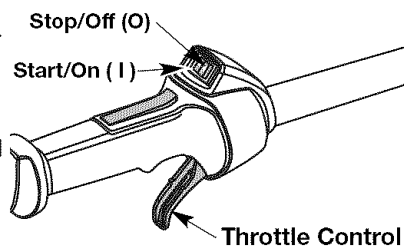

Fig. 10
**NOTE:** There is no need to turn the unit on. The On/Off Stop Control is in the ON (I) position at all times (Fig. 10).
2. Press and hold On/Off Stop Control in the OFF (O) position until engine comes to a complete stop (Fig. 10).